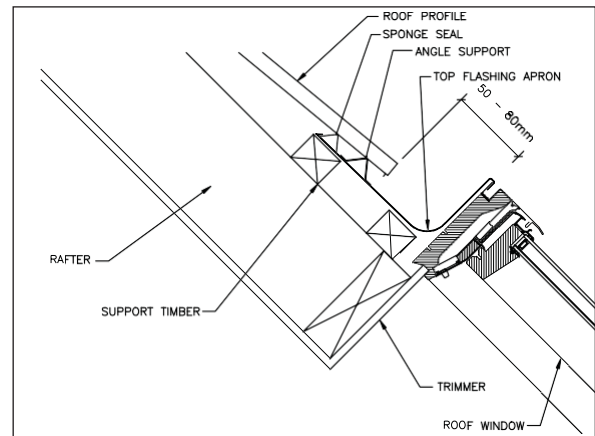
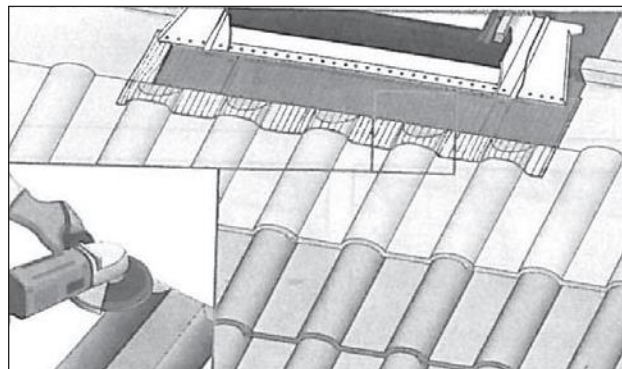

Fig 1
Fig 21
Above the upper edge: 50 - 80mm (Fig 1).
When retro fitting roofs additional framing will be required to support roofing. Ref Fig 1 & 2.
- 24) See Fig 1: The roof window must be installed above a complete row of tile. Make sure there is a gap of 90mm between skylight frame and the row of tiles. You will need to chamfer the top of the bottom row of tiles, where the mat laps over the tiles, to allow the mat to sit flat on the tiles (Fig 21). This is important to help prevent a catchment forming that may cause leaking.